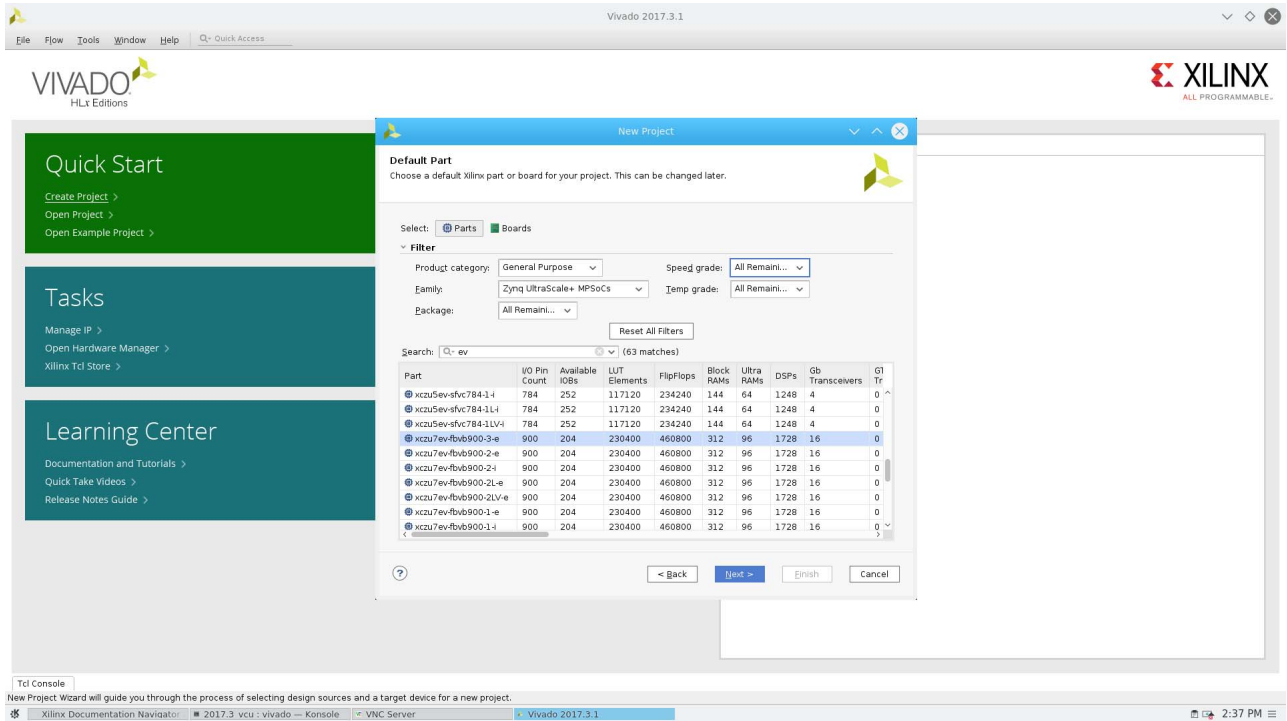

Figure 11-5: Family Selection Tab
3. Select a target device for the VCU core. (Figure 11-5).